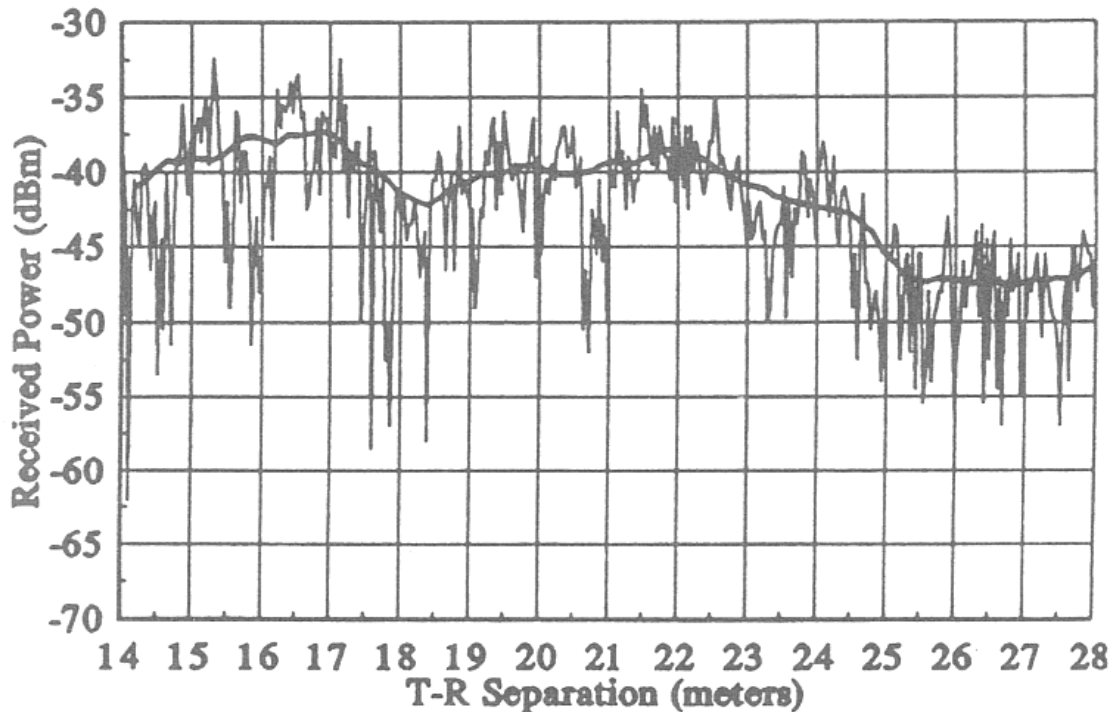

Figure 1 - Received RF Power plot indoors versus range in meters.
will still have reflections, multipath and other radio propagation disturbances (as the materials properties section below shows) which will prove to be less than ideal. Indoors then, the simple free space model fails to account for the small and large scale fading that is observed in real world radio links as Figure 1 (ref. 1) below readily shows.